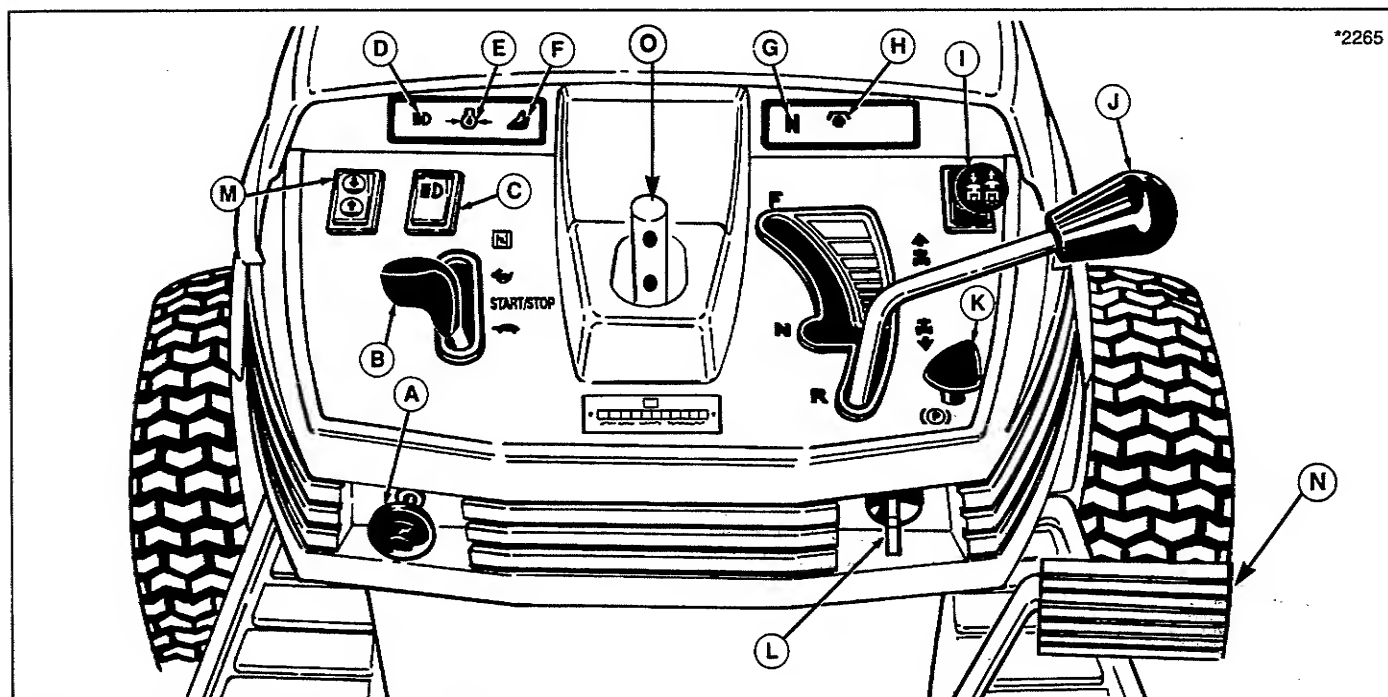
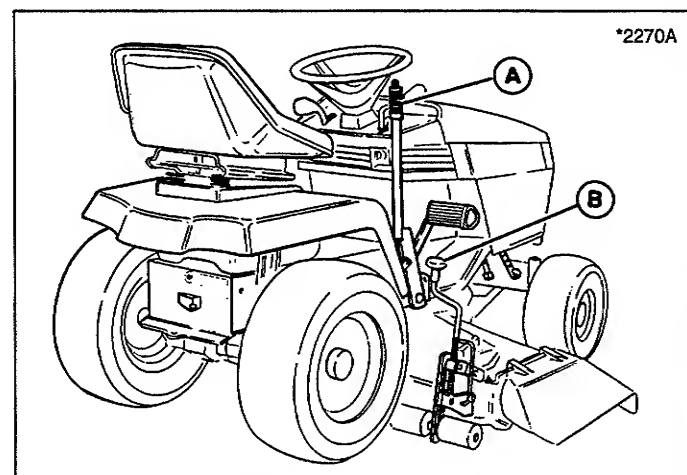

Figure 2. Tractor Controls (Hydro Model Shown)
Figure 10. Mower Operation - Manual Lift
- A. Neutral Indicator Light (G, figure 2) should go on with transmission lever in neutral gate and should go out when lever is moved to either the forward or reverse gate.
- B. PTO Indicator Light (H, figure 2) should go on and off with operation of PTO switch.
- C. Oil Pressure Indicator Light (E, figure 2) should be on and should go out immediately after engine starts.
- D. Operator Seated Indicator Light (F, figure 2) should go on when operator is present in the seat and should go off as operator rises out of the seat.
2. Place mower in the lowest cutting position using the mower height adjuster (B, figure 10). Place the mower lift lever (M, figure 2 or A, figure 10) in the lowest position, also. Slide mower deck under right side of tractor so that mower hitch is aligned with front tractor hitch.
2. Place mower in the lowest cutting position using the mower height adjuster (B, figure 10).
3. Place the mower lift lever (A, figure 10 or M, figure 13) in the lowest position.
1. When traveling to or from the work site, fully raise the mower using the mower lift lever (A, figure 10 or M, figure 13). At the work site, lower mower using the lift lever.
2. Use the mower height adjuster (B, figure 10) to set the proper mowing height. See Mowing Patterns & Tips section for cutting height recommendations.
2. Place the mower in the transport position (up) using the mower lift lever (A, figure 10 or M, figure 13).